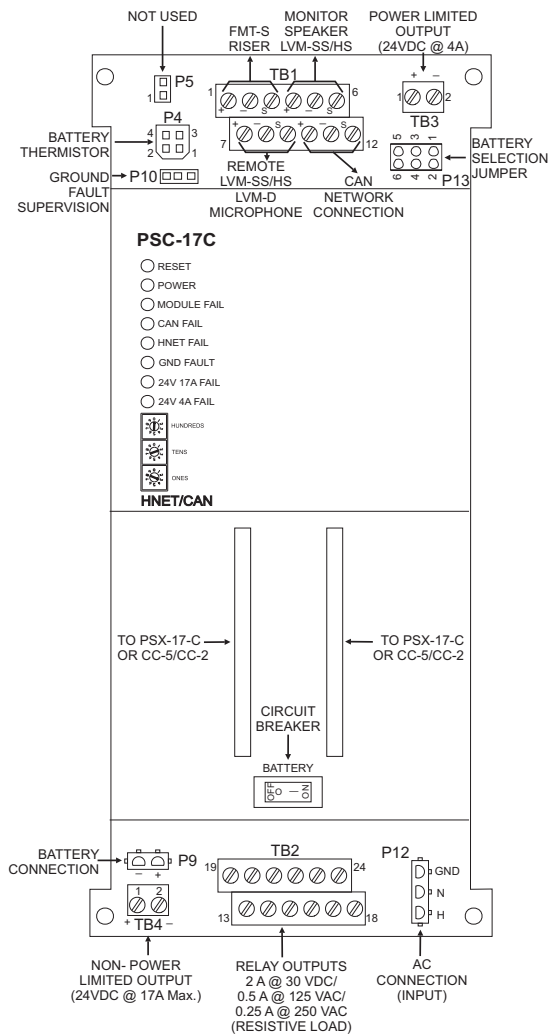

Figure 2
The PSC-17C has one reset switch, seven LEDs, three rotary switches located directly below the LEDs to set the CAN network address, one circuit breaker, four terminal blocks, four terminal connections, two 60 pin flat ribbon connections and a battery selection jumper as shown in Figure 2. The ribbon cable connections are used to connect the PSC-17C with the PSX-17C or a Card Cage (CC-2/CC-5).
The terminal blocks of the PSC-17C are defined as follows (See Figures 2, 3 and 4):
This output is normally connected to the modules and cards located on the door of the enclosure or to remote CAN network modules. This output is power limited. All wiring must be in accordance with local building codes. (See Figure 2.)
This output is normally connected to the inputs of the CC-5 or Zone Amplifier Modules. This output must remain within the enclosure. All wiring must be in accordance with local building codes (See Figure 2).
- **CAN Network Address Switches:** Set the three-digit CAN network address for the PSC-17C using the three rotary dial address switches located below the LEDs on the front panel. (Refer to Figure 2 for the location of the switches.) The address for the PSC-17C must be the same as the address selected for it in the Zeus Programming Tool. To set the address, turn the pointers on each of the three dials to the numbers for the selected address. For example, if the address is 023, set the pointer for the HUNDREDS dial to "0," set the pointer for the TENS dial to "2," and set the pointer for the ONES dial to "3." The range of allowable addresses is from 001 to 099 (leading zeros must be used).